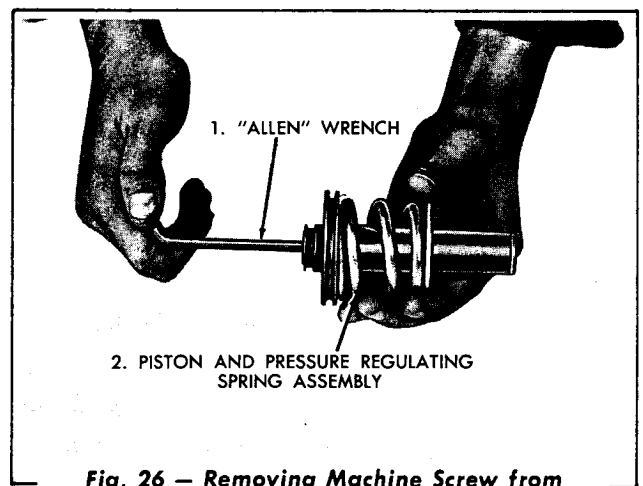
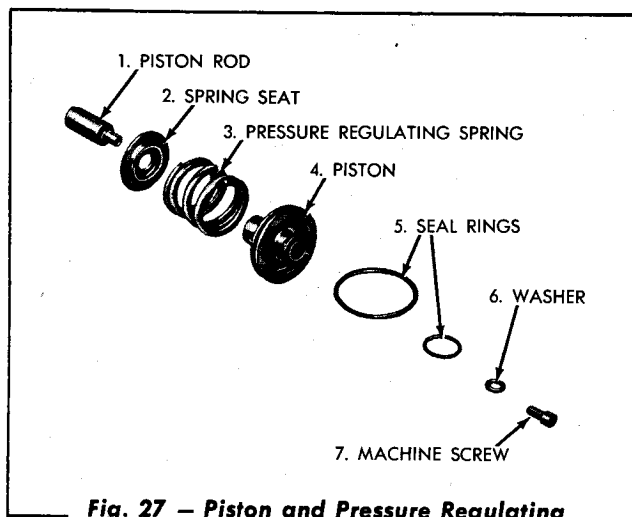
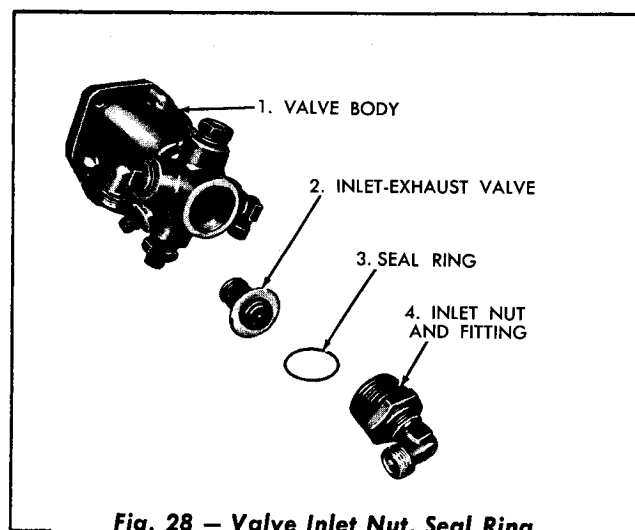

Fig. 26 — Removing Machine Screw from Piston and Pressure Regulating Spring Assembly
Fig. 27 – Piston and Pressure Regulating Spring Details
Fig. 28 – Valve Inlet Nut, Seal Ring, Intake-Exhaust Valve, and Valve Body Details
10. Remove the "Allen"-head machine screw and the washer from the piston rod (Fig. 26). Remove the pressure regulating spring, the spring seat and the piston rod from the piston (Fig. 27). Remove the seal rings from the piston.
11. Remove the inlet nut and the seal ring from the valve body (Fig. 28). Remove the inlet-exhaust valve.
NOTE: Replace the seal rings on the inlet nut (Fig. 28), and on the piston (Fig. 27).